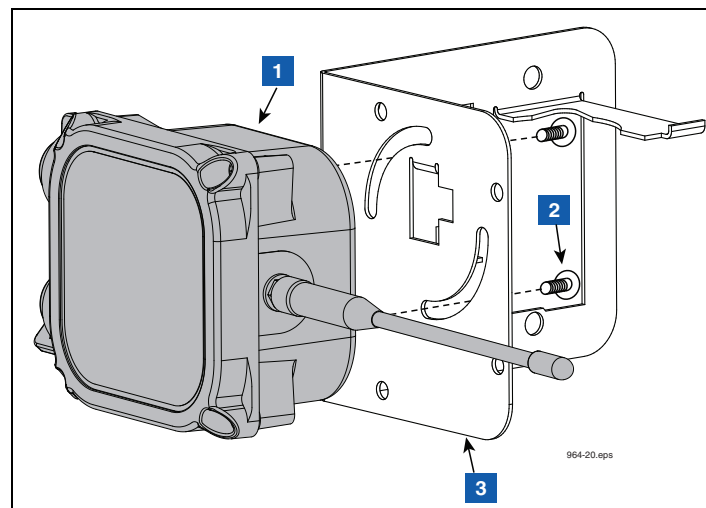

Figure 19. Attaching Transmitter to Battery Support Bracket
3. Using two taptite screws from the kit, attach the Transmitter housing to the side of the battery support bracket that has the two circular slots (see Figure 19). Do not tighten screws at this time.
LEGEND FOR NUMBERED BOXES IN Figure 19
2. Using two taptite screws from the kit, attach the Transmitter housing to the side of the battery support bracket that has the two circular slots (see Figure 19). Do not tighten screws at this time.